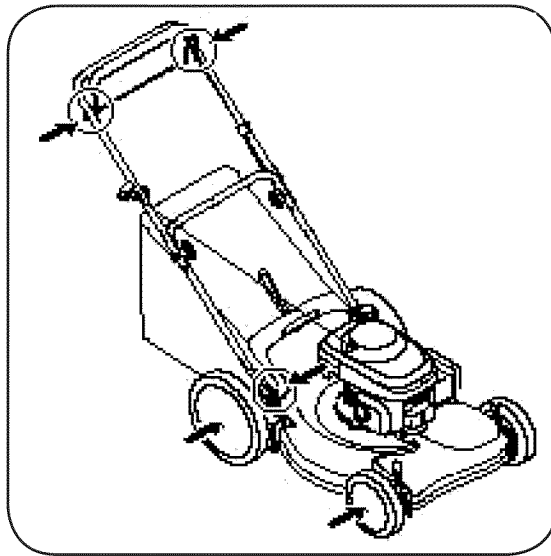

Figure 5-1: Areas to lubricate on mower.
1. Lubricate pivot points on the blade and drive control handles at least once a season with light oil, Figure 5-1.